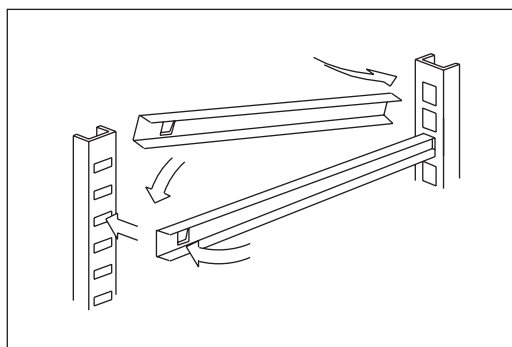

Fig.6
- position the grille holding guide rails in the holes of the racks (Fig. 6 )